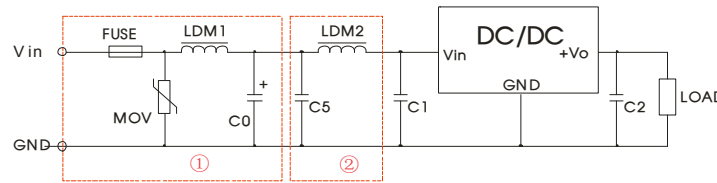

Fig.4 Recommended compliance circuit
Note: Part ① in Fig. 4 shows Immunity compliance filter and part ② filter for Emission compliance; depending on requirement both filters ① and ② can be used in series as shown.